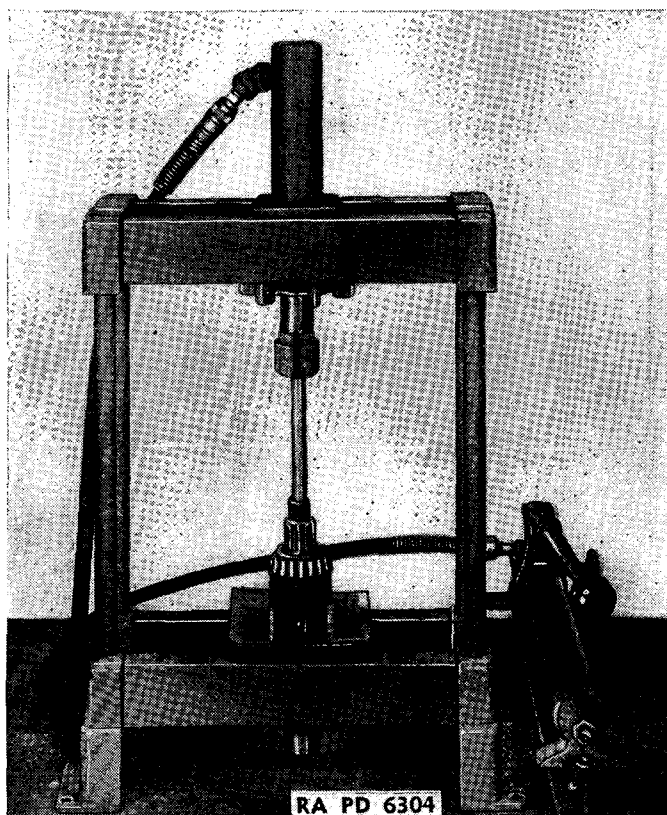

FIGURE 128.—Pressing front bearing off front-drive shaft.
(3) Remove front-drive shaft front bearing cone—press. Set up in press and remove front bearing cone and rollers (A214965) (fig. 128).